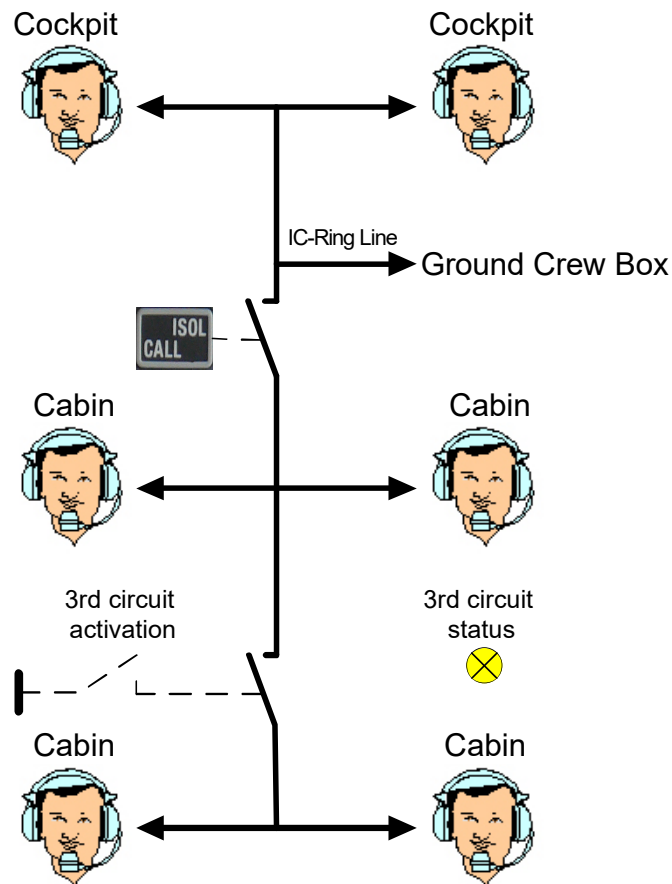

Figure 25: Intercom Circuits - 3rd-IC-Circuit for Special Mission Operation
- Details see "Figure 25: Intercom Circuits - 3rd-IC-Circuit for Special Mission Operation" page 75.